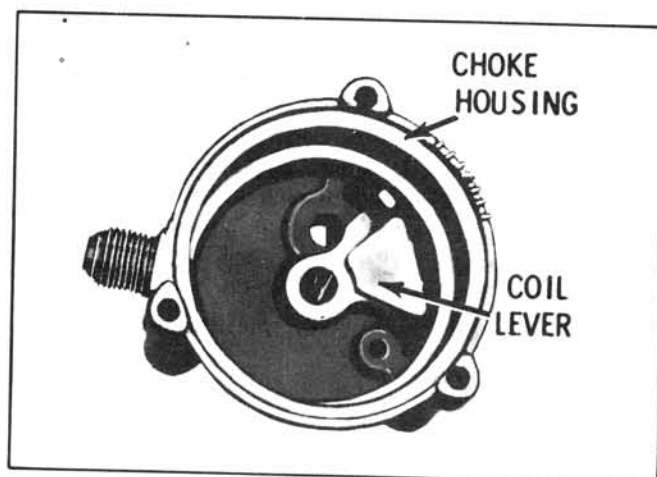

FIGURE 40
CHOKE COIL LEVER (Figure 40)
5. To disassemble intermediate choke shaft from choke housing, remove coil lever retaining screw at end of shaft inside the choke housing (Figure 40). Then remove thermostatic coil lever from flats on intermediate choke shaft. Remove intermediate choke shaft from the choke housing by sliding outward. The fast idle cam can now be removed from the intermediate choke shaft.